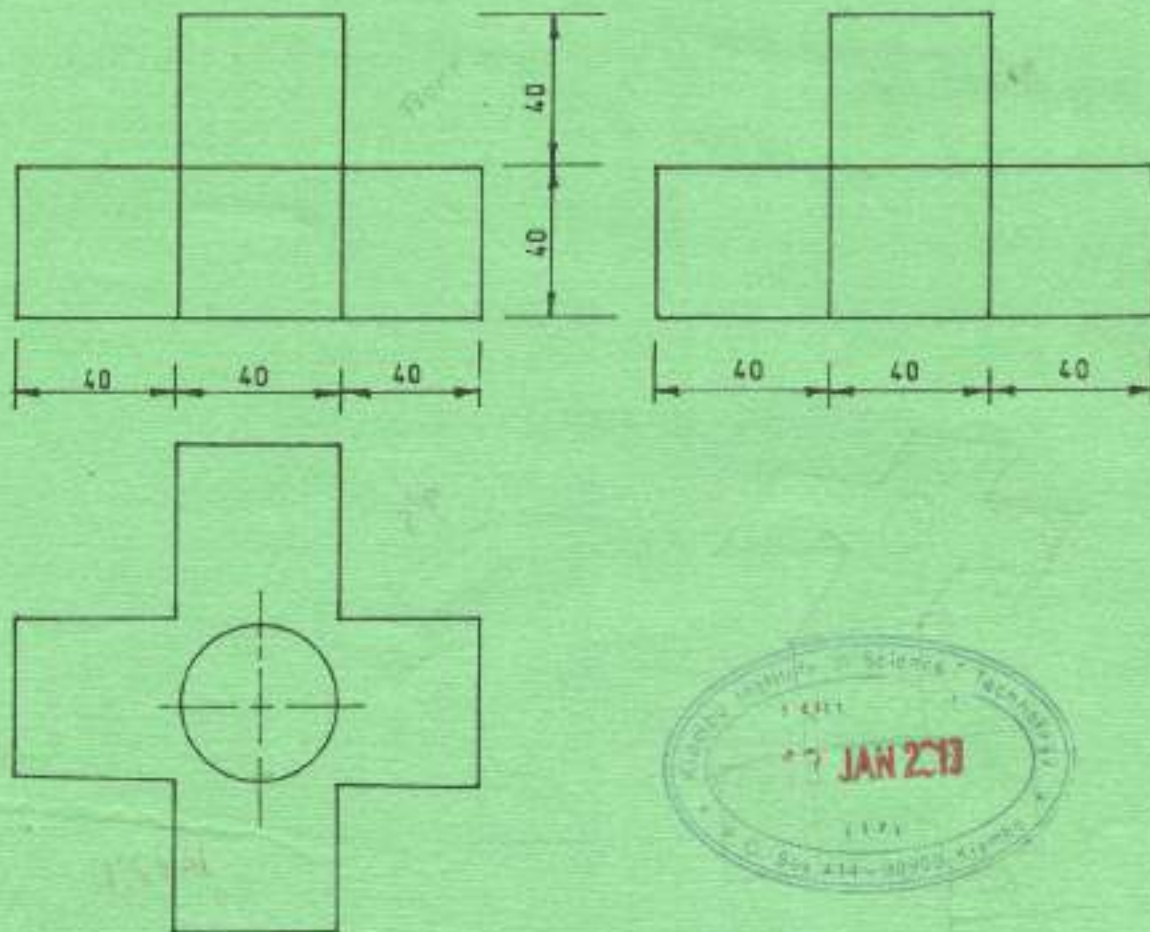

Fig. 2
6. Figure 2 shows orthographic views of an object. Draw the object in isometric projection. (15 marks)